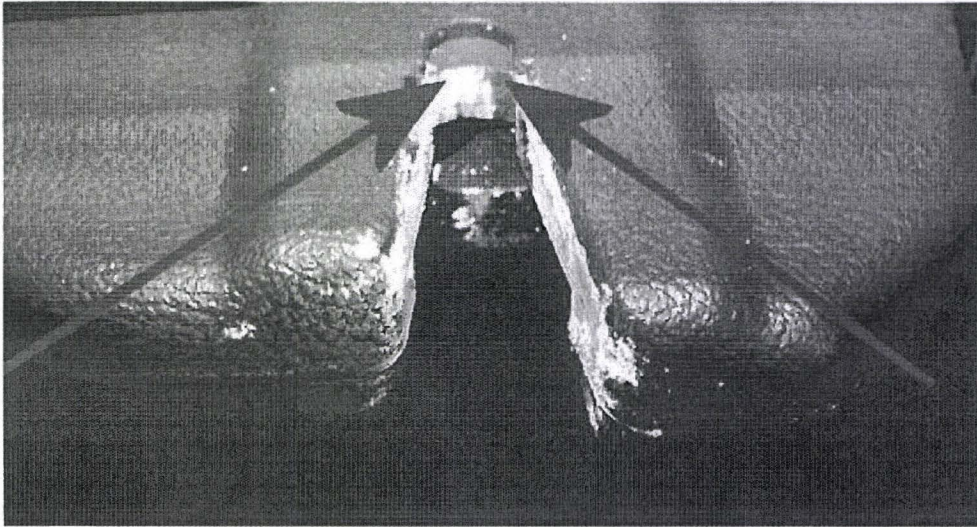

Figure 4
8. Check the latch/striker alignment, apply French chalk around the pawl area (Figure 4) and close the boot lid, re-open the boot and check to see if the striker has contacted the side of the latch cover prior to latching and adjust the striker as required